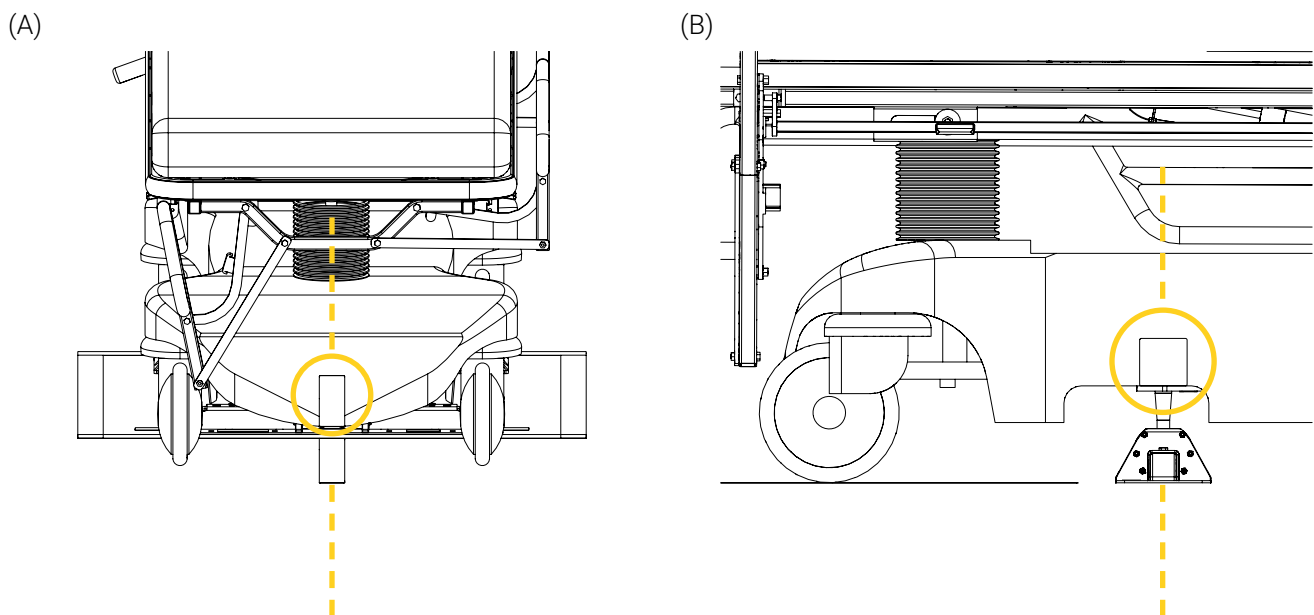

Figure 34: Application of the 50.8 mm (2 in.) W X 101.6 (4 in.) L stretcher alignment decal PRT-008-120 and safety mechanism decals PRT-008-118 and PRT-008-119
19. Stick the 50.8 mm (2 in.) W X 101.6 (4 in.) L stretcher alignment decal PRT-008-120 on the ABS base cover panel on patient foot end and centered with the decal previously installed on the floor (Figure 34 A).
20. Stick the safety mechanism decal PRT-008-118 on the ABS base cover panel on patient left and centered with the Quick-release foot control, then stick the safety mechanism decal PRT-008-119 on patient right (Figure 34 B).